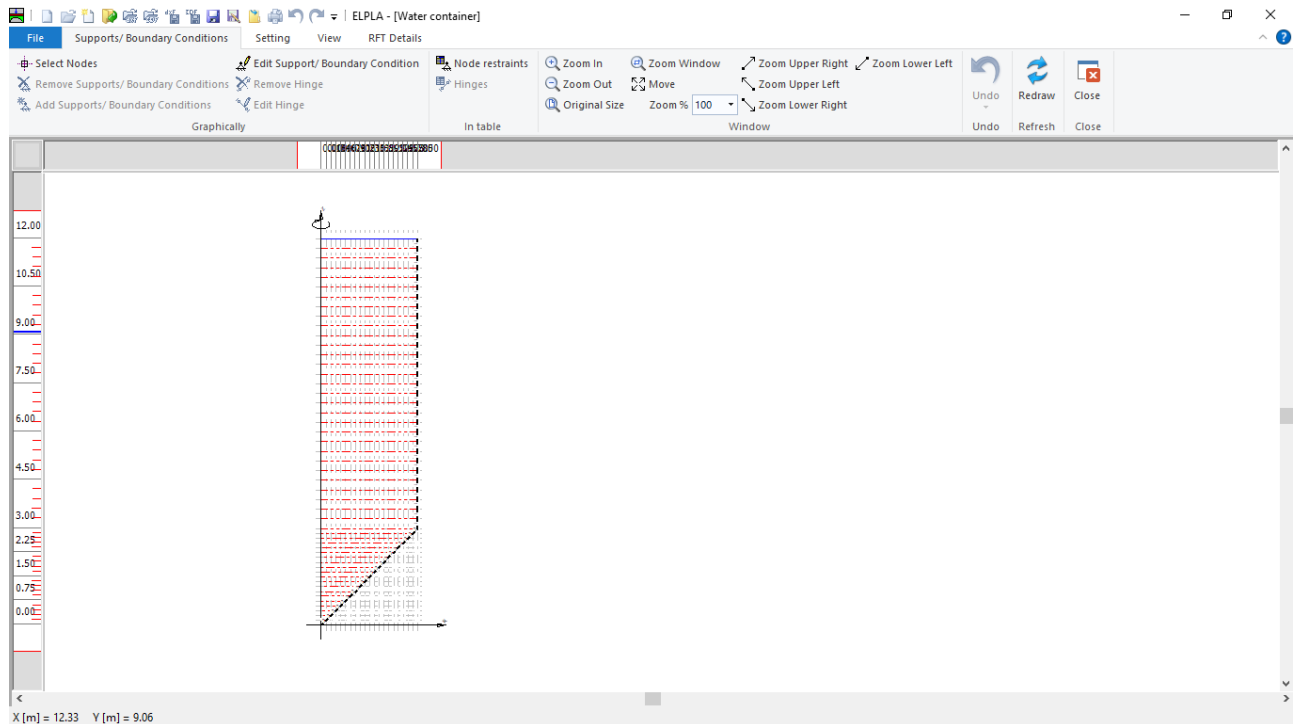
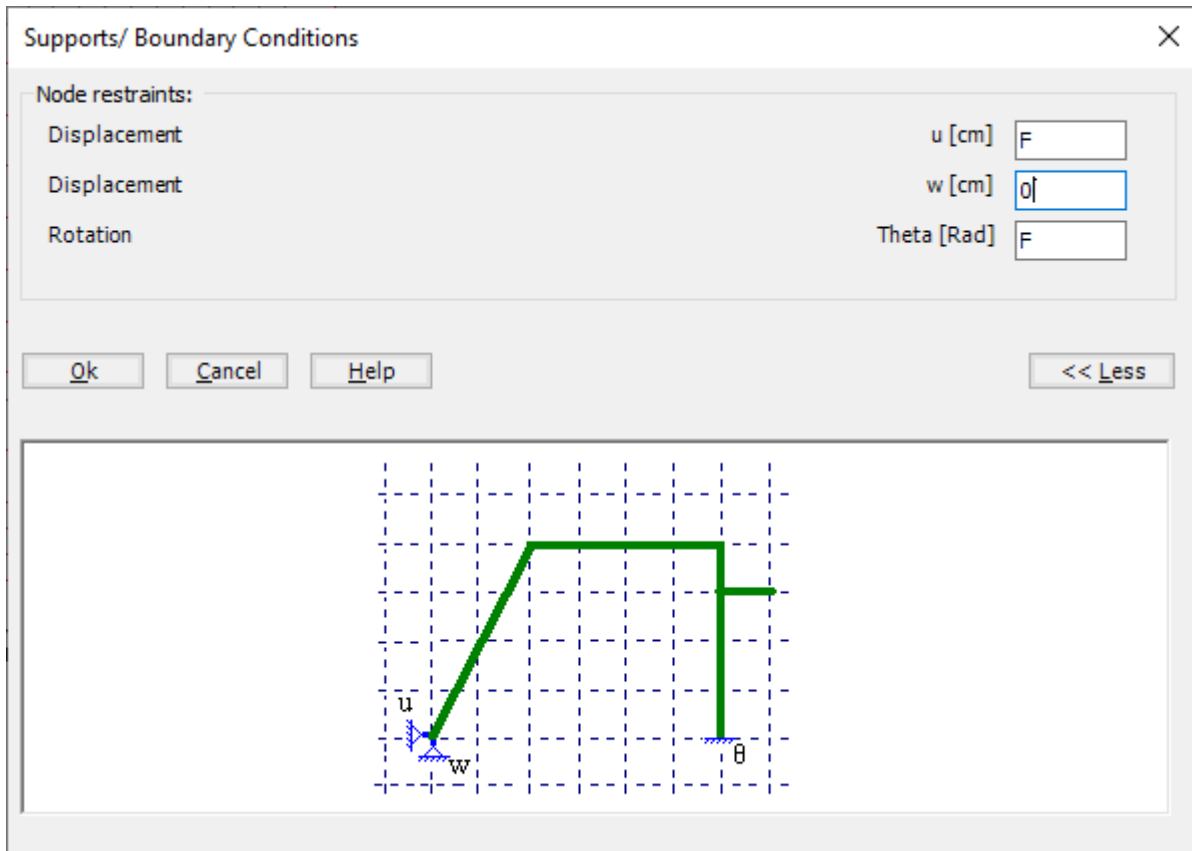

Figure 10.17 "Supports/ Boundary Conditions" Window
Figure 10.19 "Supports/ Boundary Conditions" dialog box
To define the support, choose "Supports/ Boundary Conditions" command from "Data" Tab. The following window in Figure 10.17 appears.
- Choose "Select Nodes" command from "Graphically" menu in Figure 10.17. When "Select Nodes" command is chosen, the cursor will change from an arrow to a cross hair
- After selecting the node, choose "Add Supports/ Boundary Conditions" command from "Graphically" menu (Figure 10.17). The "Supports/ Boundary Conditions" dialog box in Figure 10.19 appears.